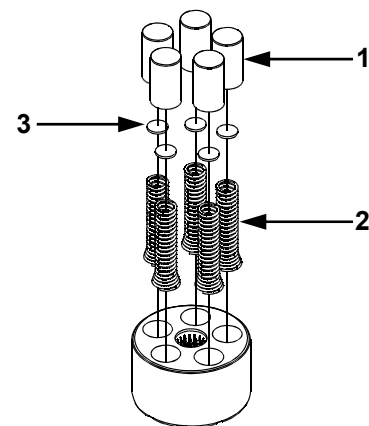

Figure 17
11. **(See Fig. 17)** Check each piston for proper operation by pressing the pistons in and releasing them in the block bore. Disassemble the pump cylinder block. Check for piston/block wear in the cylinder bore. Inspect the pistons (1), piston springs (2) and piston seats (3) for excessive wear or damage. NOTE: Piston seats may be held in place in the piston by residual oil.